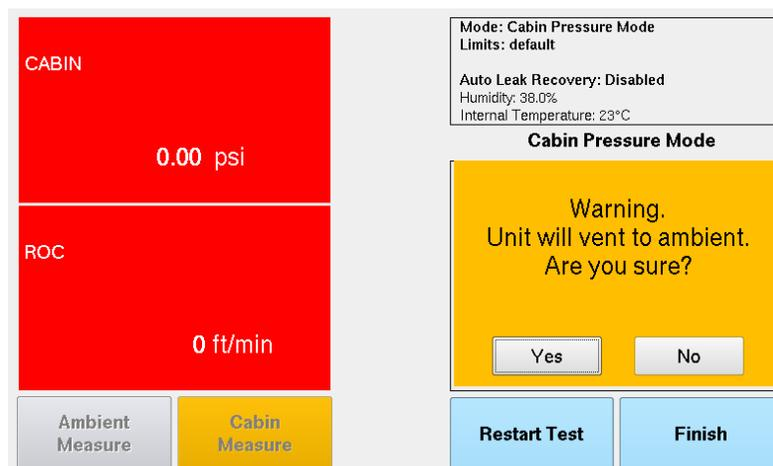

Figure E. 14 Cabin Pressure Mode – Step 2
11. Once the test is completed, touch the Finish button to exit the Cabin Pressure Mode. A warning screen is displayed with the message below (Fig. E. 14). Touch “Yes” and the unit will vent to ambient.